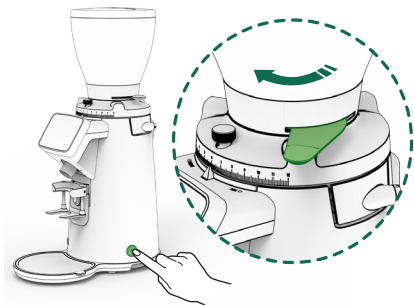

Fig. 4
Plug in the grinder, and press the main power switch (13) to **ON** position, and open the bean trap (4) to allow coffee to pass into the grind chamber (Fig. 4).